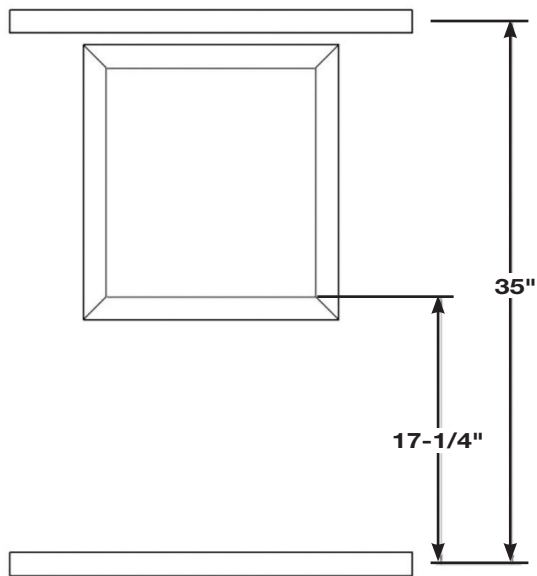

Fig. 5 - Spacer
6. If a spacer is required, make one from wood that is a minimum of 1-1/2" wide similar to what is shown (Fig.5). Ensure the thickness of spacer combined with the wall thickness will be between 6" and 8-1/2". Cut boards to fit around the duct cutout. Cut two 26" long boards to make spacers for the mounting brackets. Space the lower spacer so the center of the board is 17-1/4" below the bottom of the cutout. Ensure that the spacer is level and that the fasteners used will not interfere with the fasteners that will be used to connect the bracket to the spacer. Place the top spacer so the center of the spacer is 35" from the center of the lower board.